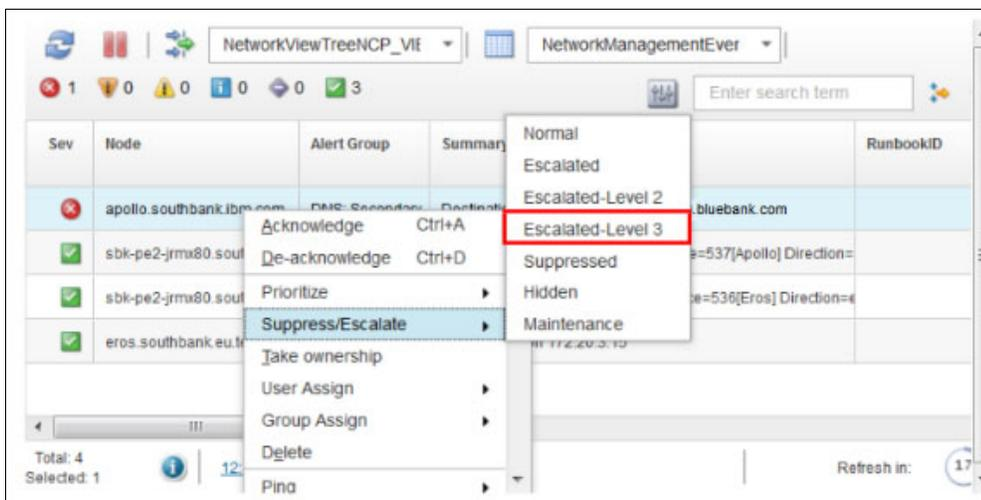

Figure 2-25 Escalating events by using the Network Health Dashboard
- Annette escalates the issue to Brock (the SME) by right-clicking the Event that is associated with the Secondary DNS server, and clicking **Suppress/Escalate** → **Escalated-Level 3**, as shown in Figure 2-25.